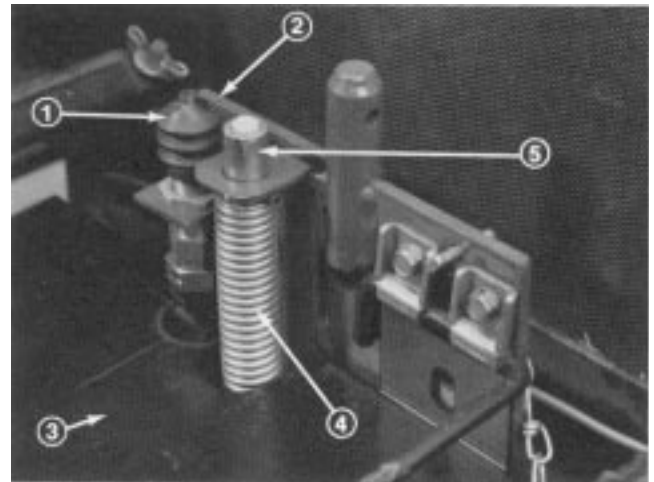

Figure 3
1. Insert pin part way into hole in top of seat support bracket on machine (Fig. 3).